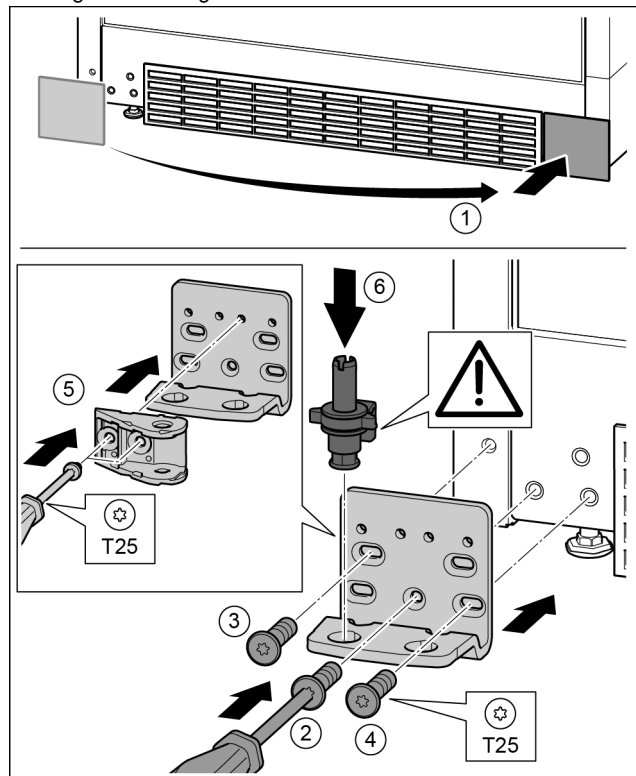

Fig. 31
- ▶ Remove the cover and fix it on the other side. *Fig. 31 (1)*
- ▶ Place the bearing bracket on the other side and screw in with the aid of a T25 screwdriver. Start with screw 2 at the bottom in the middle. *Fig. 31 (2)*
- ▶ Screw in screws 3 and 4. *Fig. 31 (3, 4)*
- ▶ Rotate the soft stop connection 180°. Screw in with a T25 screwdriver on the other side of the bearing bracket. *Fig. 31 (5)*
- ▶ Insert the bearing pin completely. Make sure that the catch mechanism is pointing to the rear. *Fig. 31 (6)*